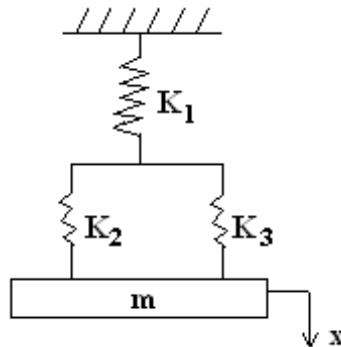

Figure 7
7. A mass is suspended from a spring system as shown in figure 7 Determine the natural frequency of the system. Take  $k_1 = 5000 \text{ N/m}$ ,  $k_2 = k_3 = 8000 \text{ N/m}$ ,  $m = 25 \text{ kg}$ . [16]